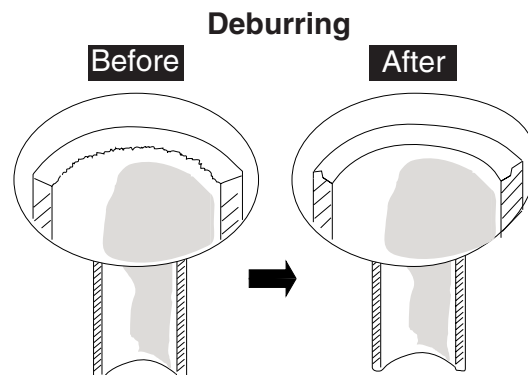

Fig.25
- Remove burrs at the end of the copper tube with a reamer or file. This procedure is important and should be done carefully to make a good flare. (Fig.25)